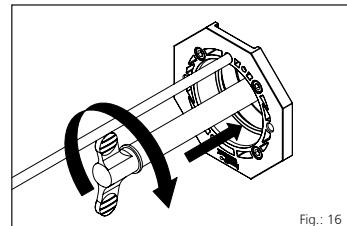

Fig.: 16
- 8** Push the quick tensioning device by one hand's width into the sleeve pipe of the MIS 100/VT63 ND. In doing so, continue to push the driving pipe into the building entry and tighten the quick tensioning device (see Fig. 16).